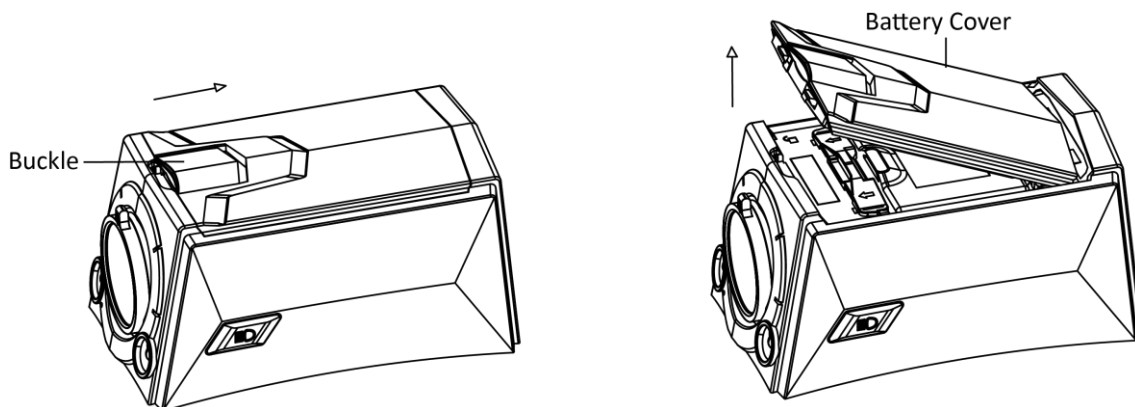

Figure 2-1 Uninstall Battery Cover
Step 1 Press the battery cover buckle according to the direction shown in Figure 2-1, and lift the cover to uninstall it.